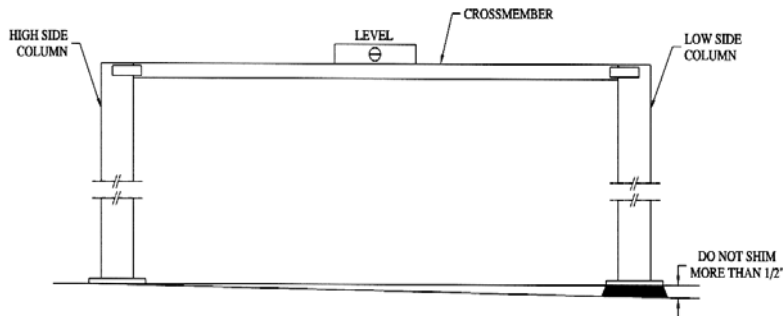
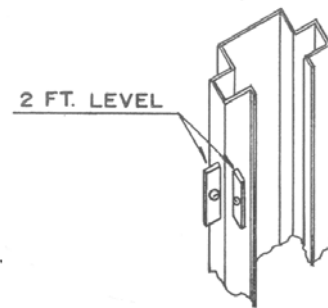
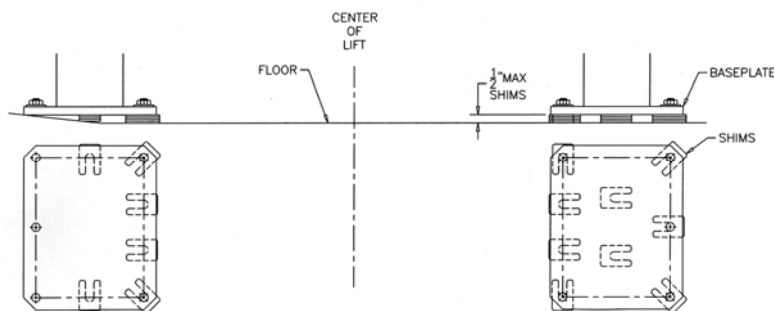

Figure 18
Figure 19
Figure 20 - Shims
2. Using a 4ft. level on top of the crossmember, determine which column is higher. Refer to **Figure 18**.
3. Using a 2ft. level on the sides of the high column, ensure that the column is level in the vertical position (**Figure 19**). Use shims under the column baseplate to hold the column level. Ensure that the base plate is completely supported by shims including near the center where it does not contact the floor (**Figure 20**).
7. Reconfirm that the column is level front to rear and side to side (**Figure 19**). Add or remove shims as required.
1. Using a 4ft. level on top of the crossmember (**Figure 18**) and a 2ft. level on the low side column (**Figure 19**), shim underneath the baseplate until the crossmember and column are level. Ensure that the baseplate is completely supported by shims including near the center where it does not contact the floor (**Figure 20**).